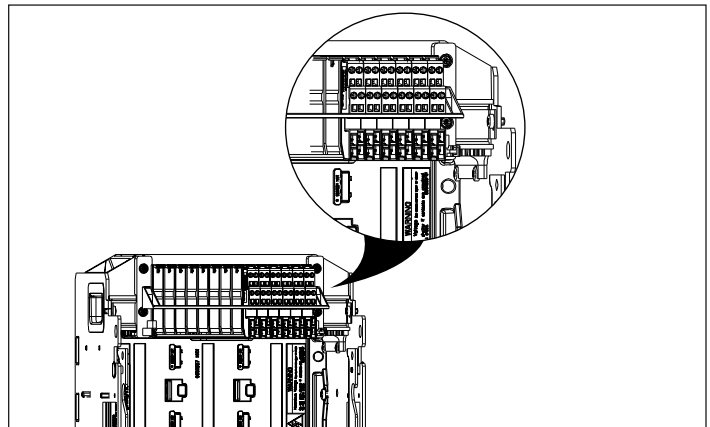

Figure 15. Breaker with some terminal blocks installed (NF frame).
Step 5. Repeat Steps 3 and 4 until all terminal blocks are mounted, and check to ensure they are positioned in the correct locations. A small number of installed terminal blocks would look as shown in Figure 15.